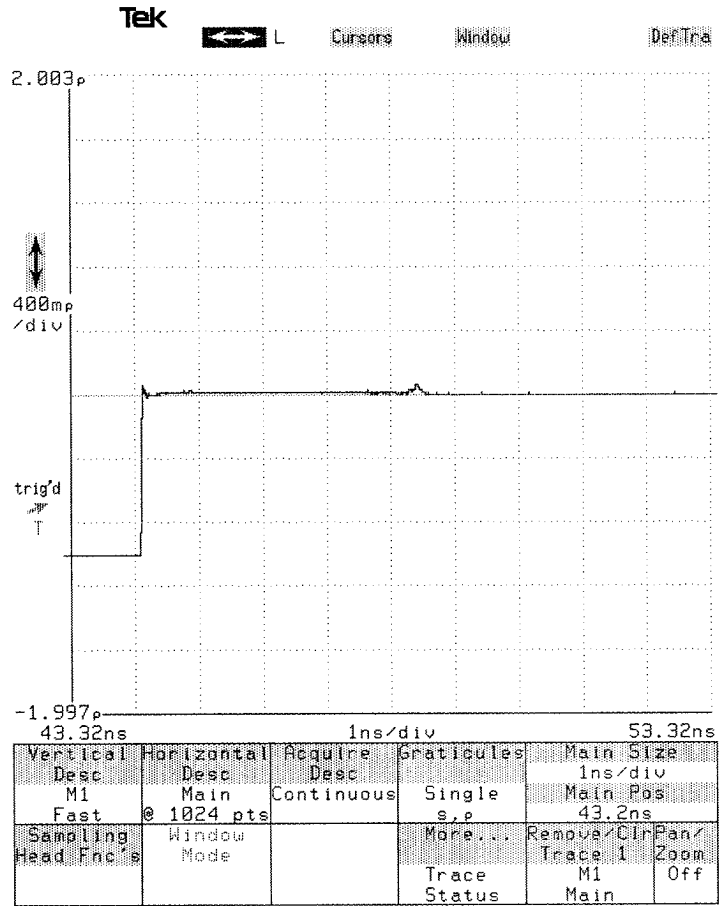

Figure 5 — Foot Switch Pressed, Cable Terminated in 50 Ω
| | Figure 5 | Foot Switch Pressed, Cable Terminated in 50 Ω | 7 |
Step 4: Press the foot switch and verify the cable is now terminated in 50 Ω (see Fig. 5). The reflection from the open circuitry should disappear leaving a flat pulse top after the incident step.